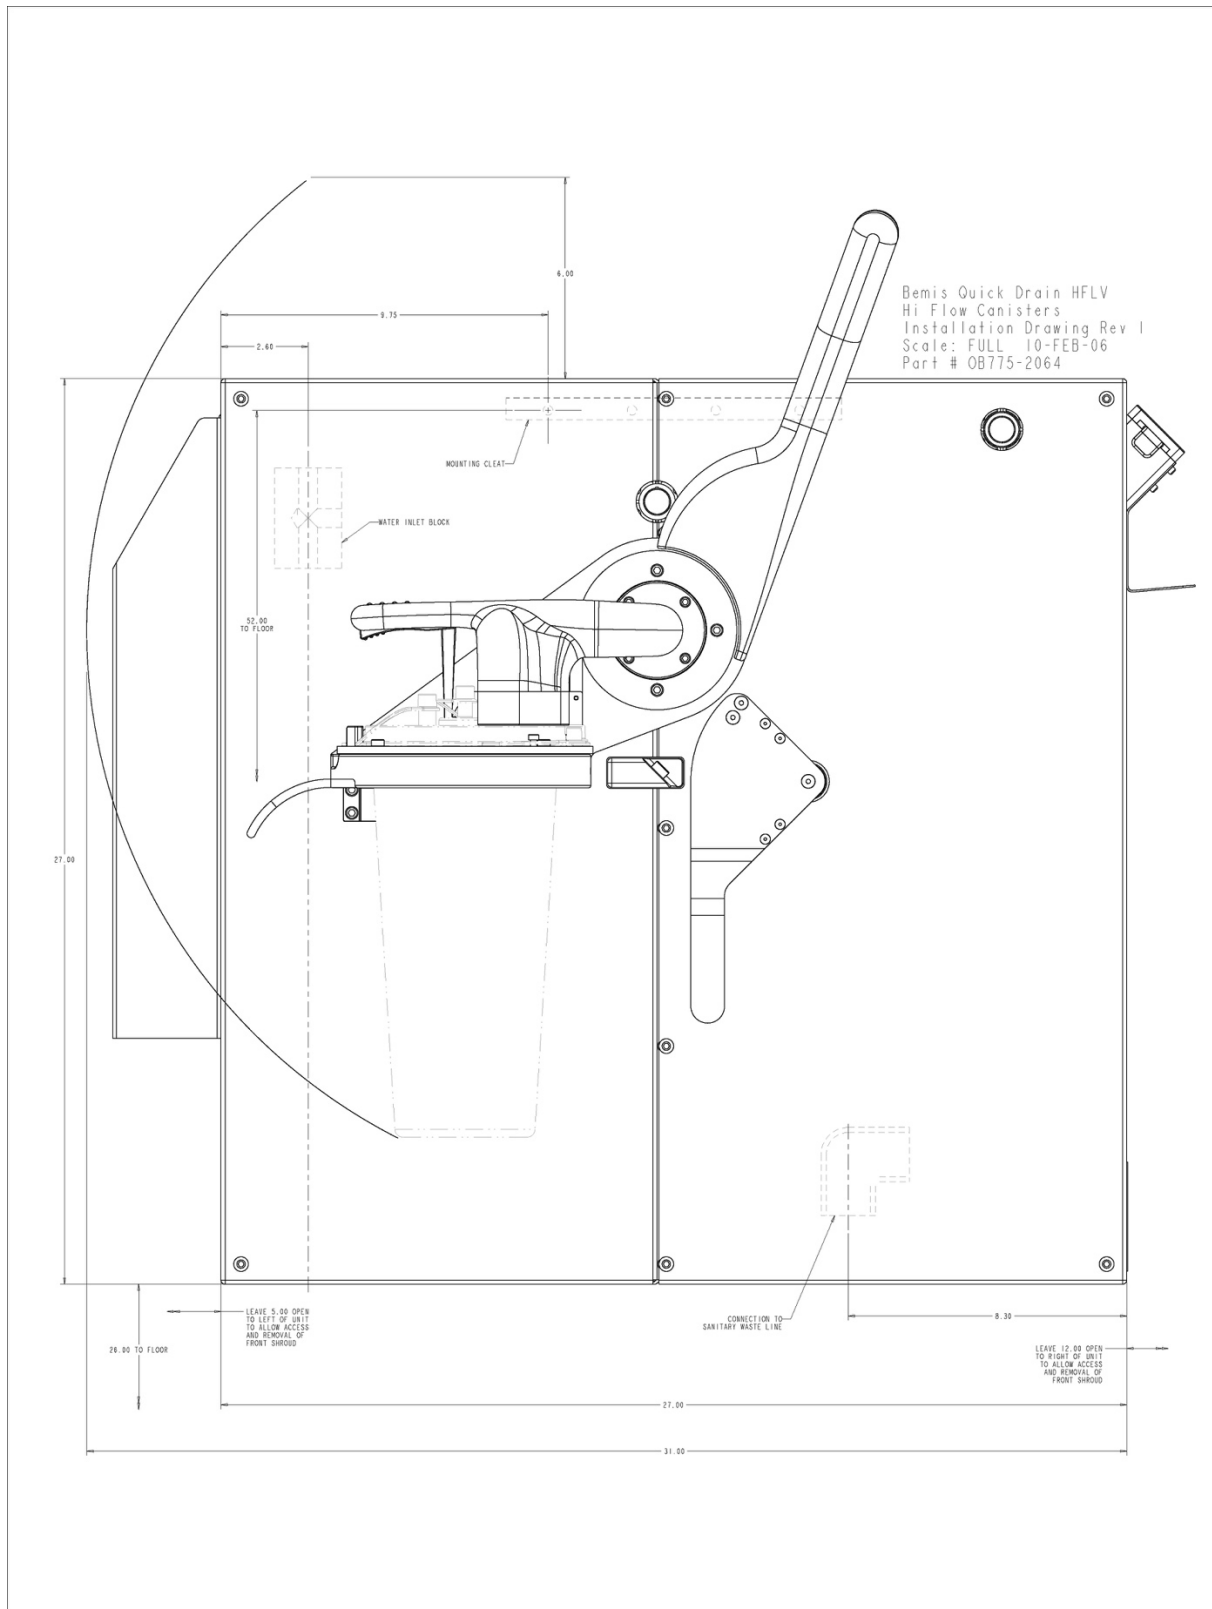

Figure 1: Quick-Drain HFLV Installation Dimensions
1. Select a place for the Quick-Drain to be installed, preferably an area isolated from patient contact and treatment. Refer to Figure 1 or 2 (depending on model) for typical dimensions used and the required wall footprint.
4. Take the component bag out of the box inside the crate. Remove the hanging cleat and mount as shown in Figure 1 or 2 (depending on model). Use appropriate fasteners so that the hanging cleat can support at least 150 lbs.
7. A 1/2" water line can be run to the Quick-Drain from the top or bottom of the machine. (Reference Figure 1 or 2) When running the water line to the machine, place a water valve just before the Quick-Drain so that water can be turned off to the system if needed.